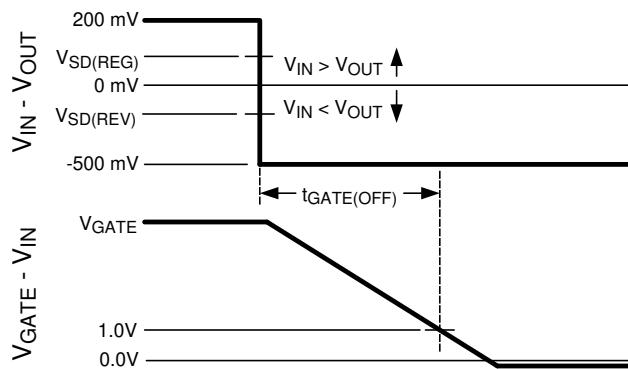

Figure 1. Gate OFF Timing for Forward to Reverse Transition
(2) Time from $V_{IN}-V_{OUT}$ voltage transition from 200 mV to -500 mV until GATE pin voltage falls to $V_{IN} + 1 \text{ V}$. See Figure 1.